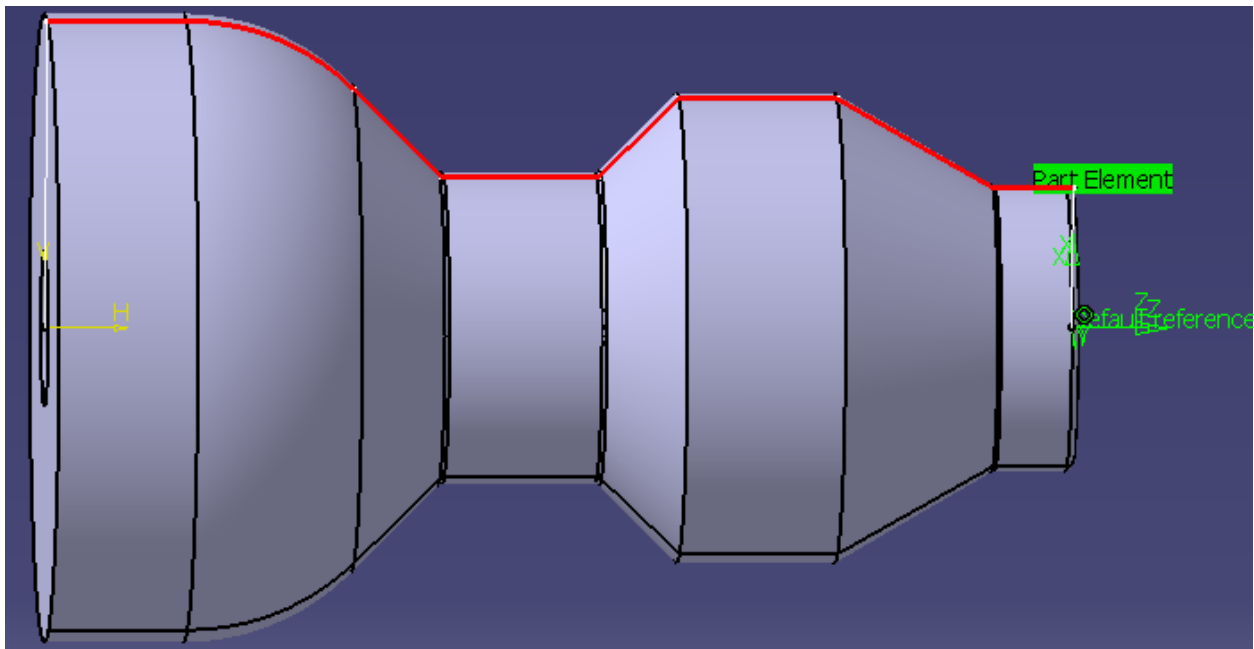

Figure 11. Finish turning profile
- i. click on select part element and select the entire profile except for the front and back faces (see figure 11)